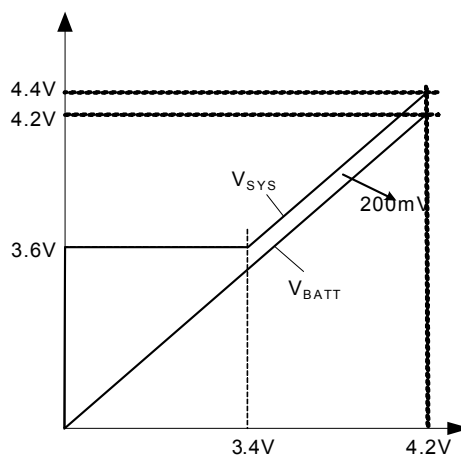

Figure 2 — MP 2617B SYS Regulation Output
2) If $BATT < 3.4V$, V_{SYS} is fixed at 3.6V to power the system immediately even when a drained battery is inserted to be charged. Figure 2 shows the relationship of V_{SYS} vs. V_{BATT} .
System voltage can also be regulated to any value between 4.08V to 4.4V in MP2617B (4.22V to 4.63V in MP2617A) by using a resistor divider on the SYSFB pin. This is shown as R6 and R7 in Figure 10. If the SYSFB is left floating, the system program is invalid, and V_{SYS} is regulated as Figure 2.